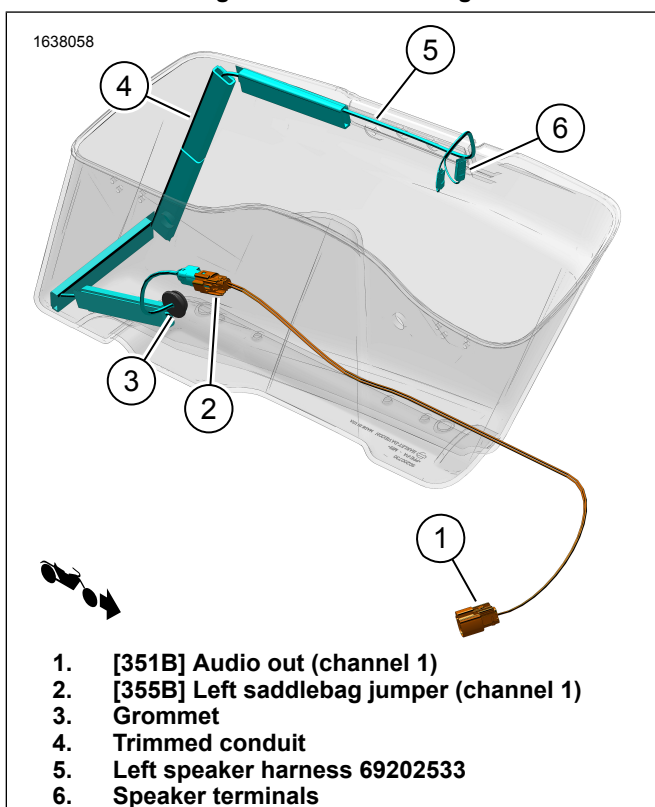
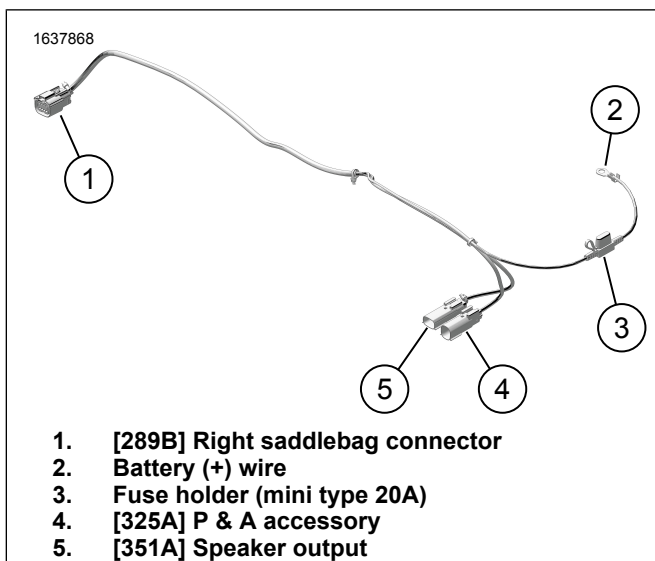
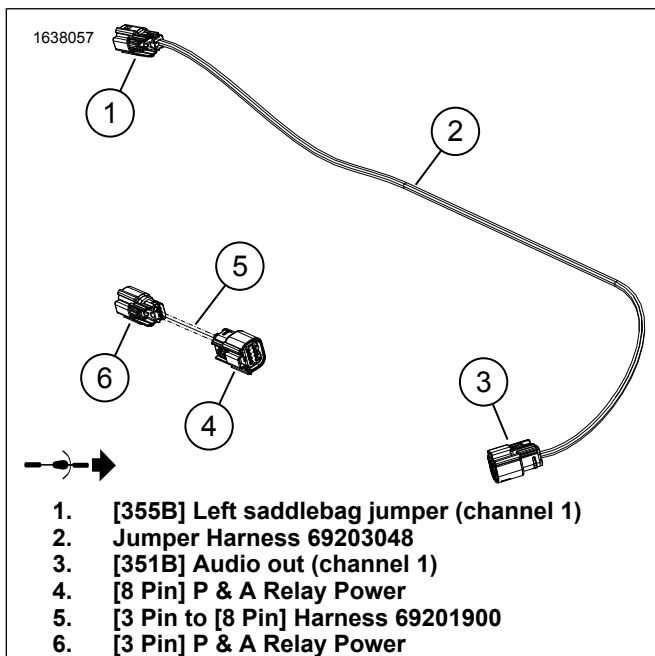

Figure 4. Left Saddlebag Harness Routings
Figure 15. External Harness 69202870
Figure 16. Jumper Harnesses
12. See Figure 4. Install left speaker harness.
- b. See Figure 4. Route wire harness (5) as shown.
1. See Figure 15. Connect battery (+) wire (2) to battery (+) terminal. See service manual.
- a. See Figure 15. Route [325A] (4) to left side of vehicle frame.
- b. See Figure 16. Connect [3-Pin] (6) of jumper harness (5) to [325A] (4) of external harness 69202870. See Figure 15.
- c. See Figure 16. Connect [8-Pin] (4) of jumper harness (5) to vehicle P & A connector [4]. Located under left side cover area.
- a. Route [325A] (4) along right side of vehicle frame.
- b. See Figure 15. Connect [325A] to P & A connector [325B]. Located under right side cover area.
4. See Figure 15. Route branch [289B] (1) of external harness along frame and fender strut support. Using cable straps, loosely install harness to anchor points. Do not tighten cable straps.
8. See Figure 16. Route and install jumper harness 69203048 (2).
- a. See Figure 16. Connect [355B] (1) of jumper harness (2) to left saddlebag speaker harness (5). See Figure 4.
- c. See Figure 16. Route [351B] (3) on jumper harness 69203048 (2) toward [351A] (5) on external harness 69202870. See Figure 15.
10. See Figure 1. Install 20 amp fuse (18) into external harness fuse holder (3). See Figure 15.
- a. Connect [360LA] to Left (L).
- b. Connect [360RA] to Right (R).
4. See Figure 15. Connect to [351A] (5).